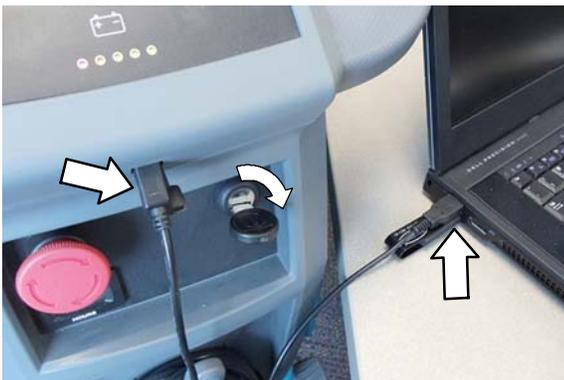

Fig. 32
3. Connect the USB cable to computer and to the USB port on machine as shown. Turn the key switch to the on position (Figure 32).